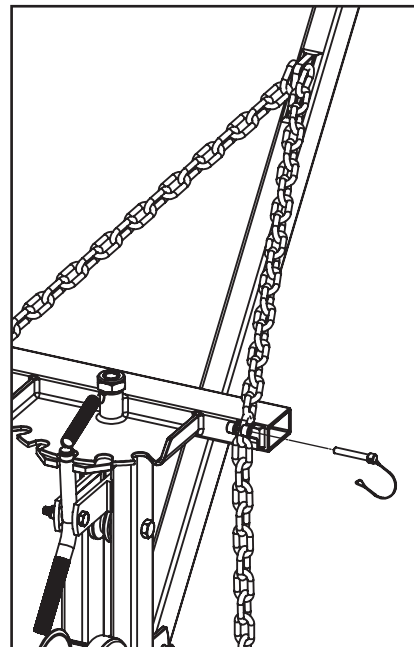

Fig. 24
Step 21: Set the height of the Boom. Remove the two pins with hasps from the index plate. With another person holding up the boom, count 10 links from the point that the chain is attached to the boom, then slide one of the chain links between the two ears on the index plate arm, reinsert the pin and engage the safety hasp (Fig. 24). Repeat this for the other side. Always use an equal number of links in each chain to ensure even loading.